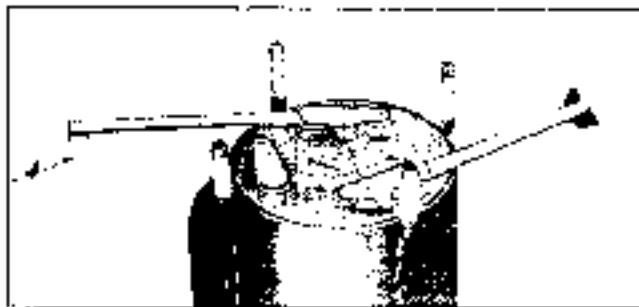

Fig. 1A-19 Removing Discharge Valve Flare
9. Carefully remove rear discharge valve plate assembly by prying up on assembly (Fig. 1A-19), and examine discharge valve reeds and seats. Replace entire assembly if excessively scored or if any one of the three reeds is broken or seats are damaged.